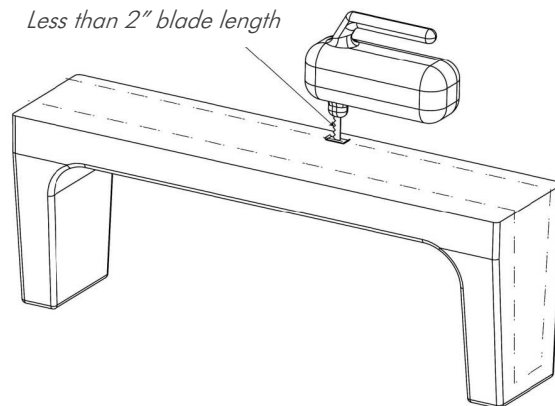

FIGURE 5
7. Cut the CleanCut Ultra-Low to fit the cut-out tub opening using a jigsaw (Figure 5). Fasten Velcro-stripping on both sides of the jigsaw to prevent making any unwanted marks on the CleanCut Ultra-Low. It is important that a blade less than 2" is used to cut out the CleanCut Ultra-Low so as to prevent accidentally cutting through the top of the Ultra-Low. Snap off any excess length on the stock jigsaw blade beyond 2".